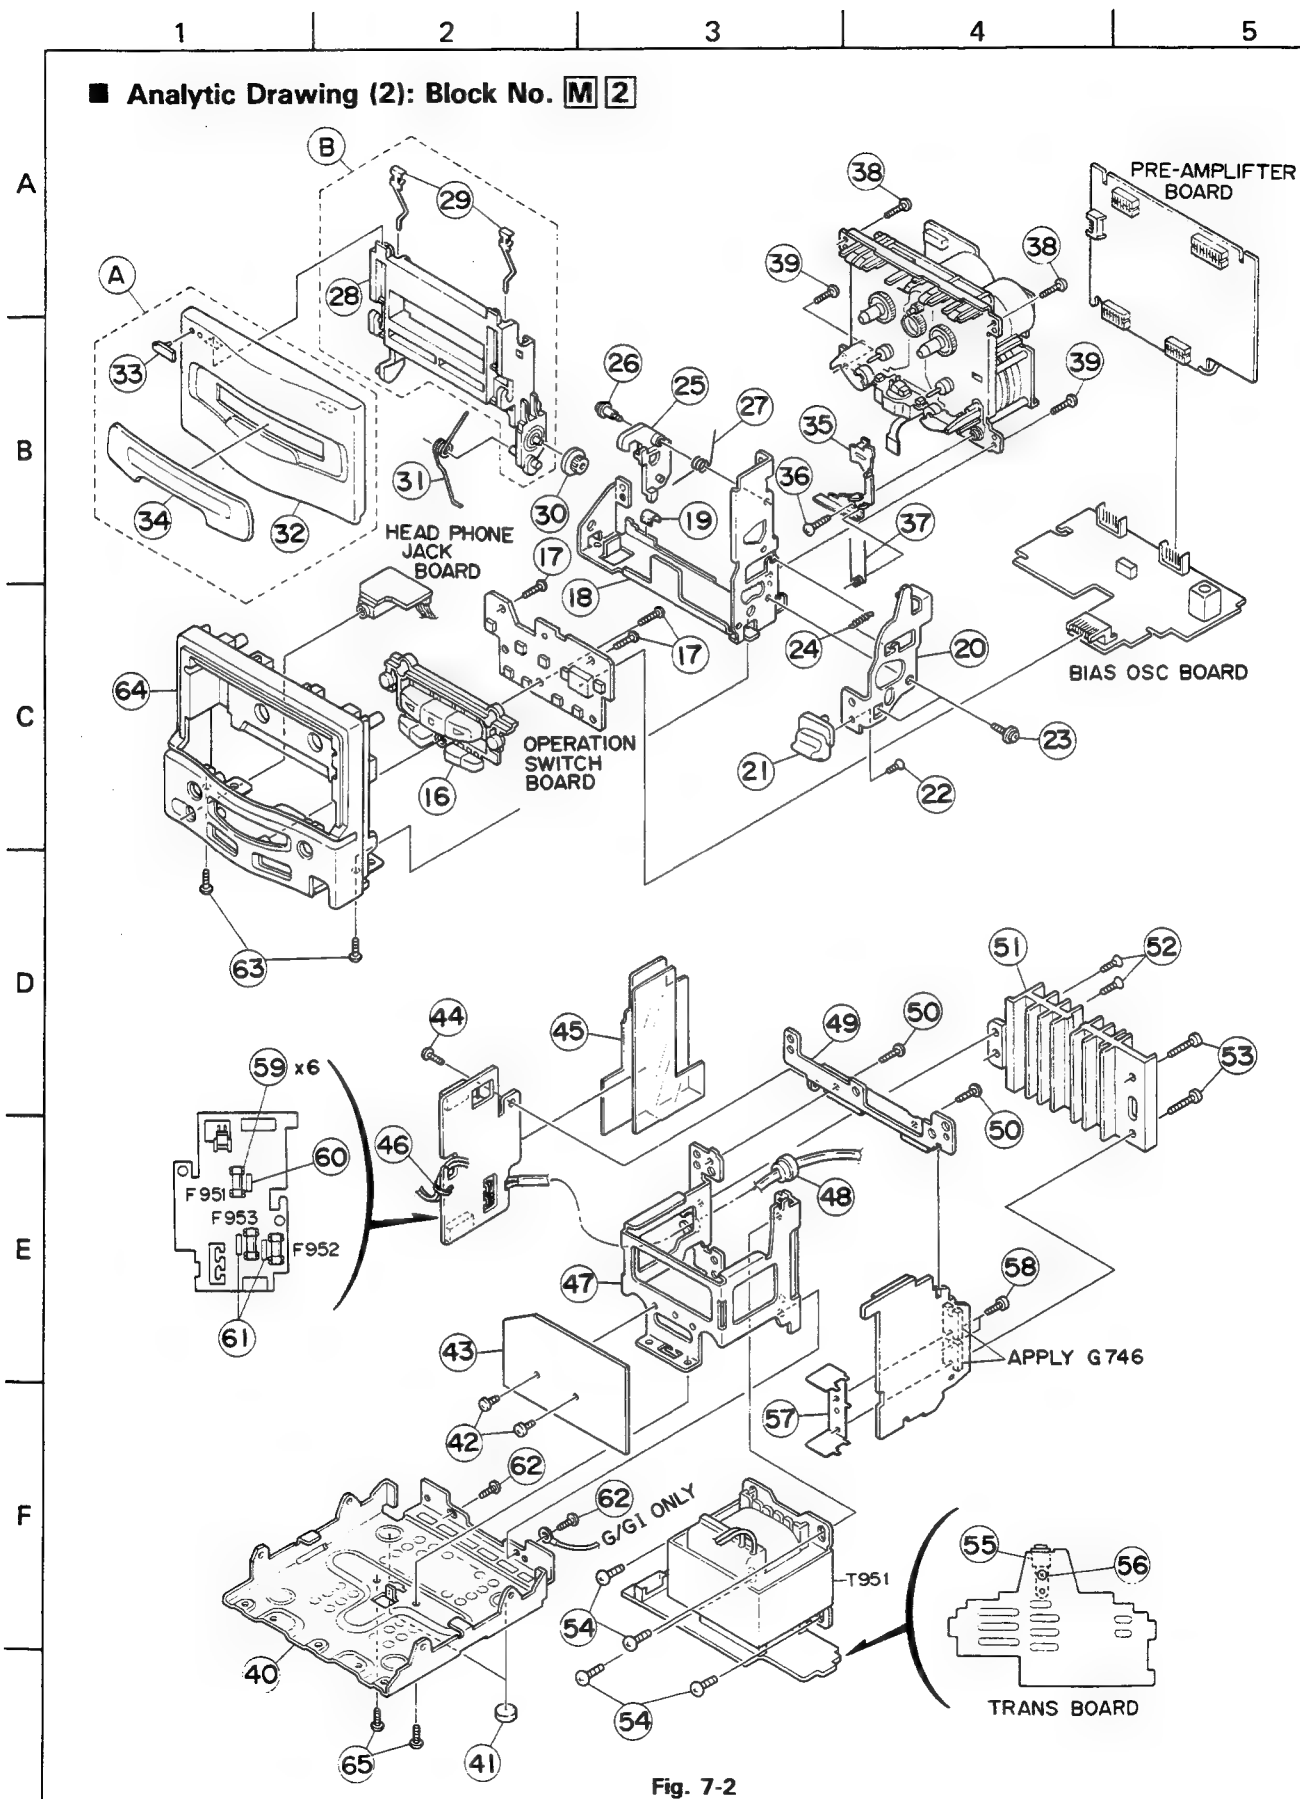

Fig. 7-2
● Cassette Mechanism (Fig. 7-2, 3)
● Headphone Jack P.C. Board (Fig. 7-2, 3)
• Operation Key Switch P.C. Board and Front Panel (Fig. 7-2, 4)
1. Remove the two screws (63) retaining the cassette holder bracket from the lower side of the front panel.
6. Remove the three screws (17) retaining the operation key switch P.C. board, and draw out the P.C. board.
• Power Supply Transformer (Fig. 7-2, 5~7)
3. Remove the one screw (44) retaining the fuse P.C. board from the transformer bracket.
8. Remove the four screws (54) retaining the power supply transformer from the transformer bracket.